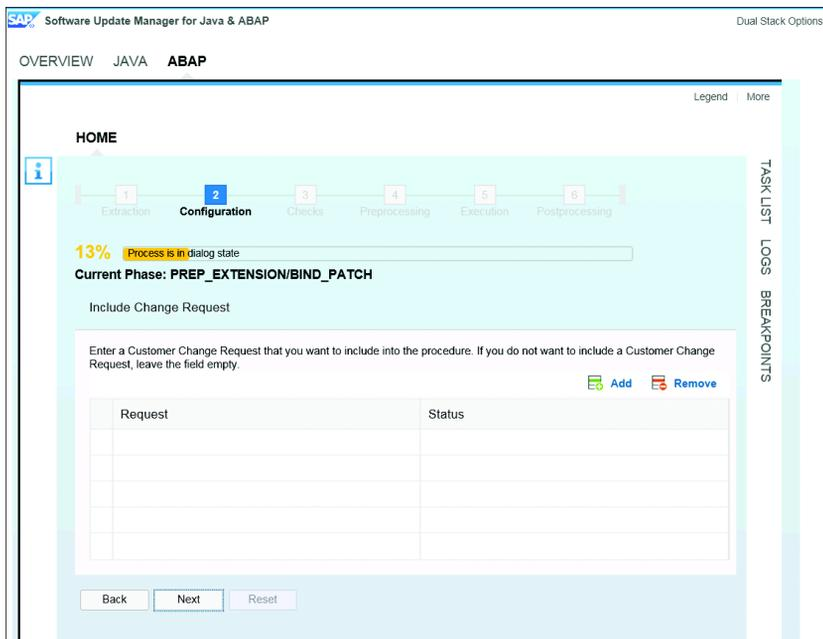

Figure 51 Insert Change Request Numbers
8. Provide SUM with a list of change requests that must be imported during the upgrade. If you don't have any, leave it blank. Select NEXT when you are ready to continue (see Figure 51).